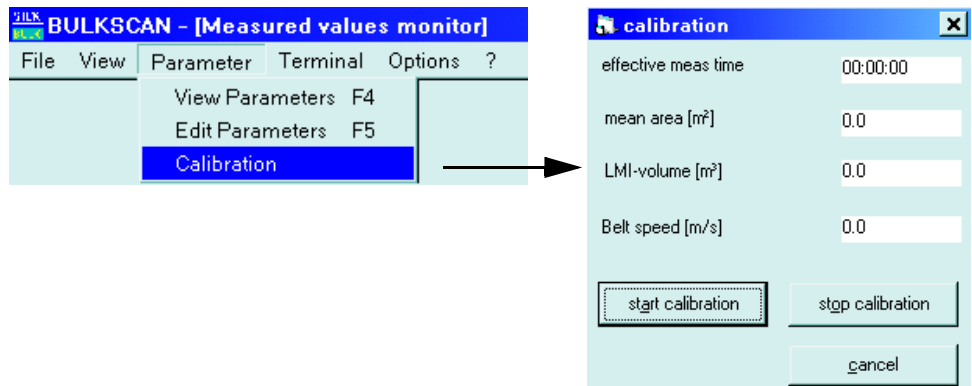

Fig. 4.28: Starting the calibration
- ▶ Compare the reference volume with the value "LMI-volume [m³]" measured by the BULKSCAN (see **Fig. 4.28**).
- ▶ If deviations occur between both values, determine the correction factor cc1 according to equation (1), and enter it into the calibration equation (2) in the "Measurement" tab (cc2 und cc0 stay at 0) :
see **Fig. 4.28**